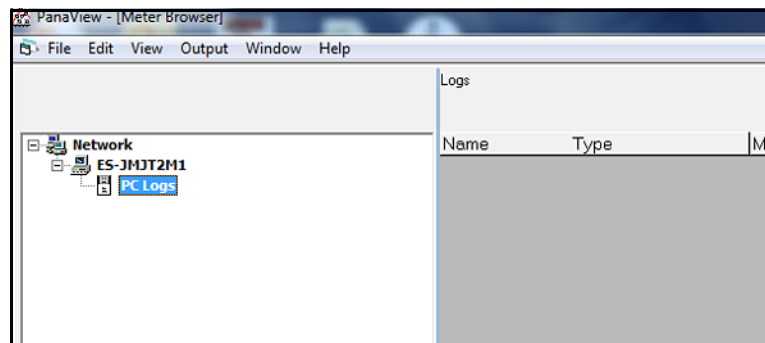

Figure 30: PC Logs Branch
2. Fully expand the network tree by clicking on the “+” sign next to the My Computer (Name) branch (see Figure 30 below).